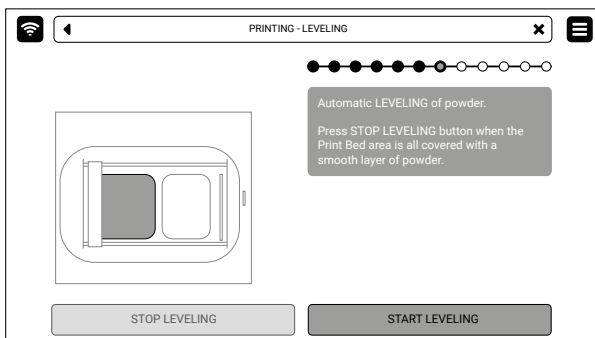

Fig. 6.8 Start **AUTOMATIC LEVELING** screen.
2. Press **START LEVELING** to begin leveling the powder surface (fig. 6.8).